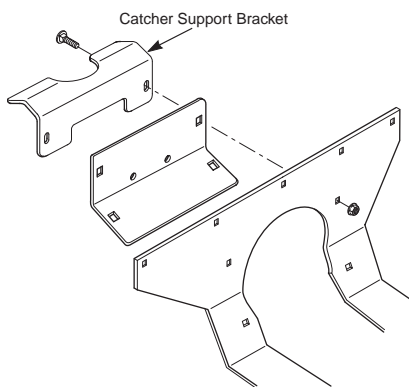

FIGURE 3-4
13. Install the catcher support bracket onto the rear of the machine and secure with 5/16-18 x 1" carriage bolts (p/n 04003-04) and 5/16-18 serrated flange nuts (p/n 04019-03). See Figure 3-4.